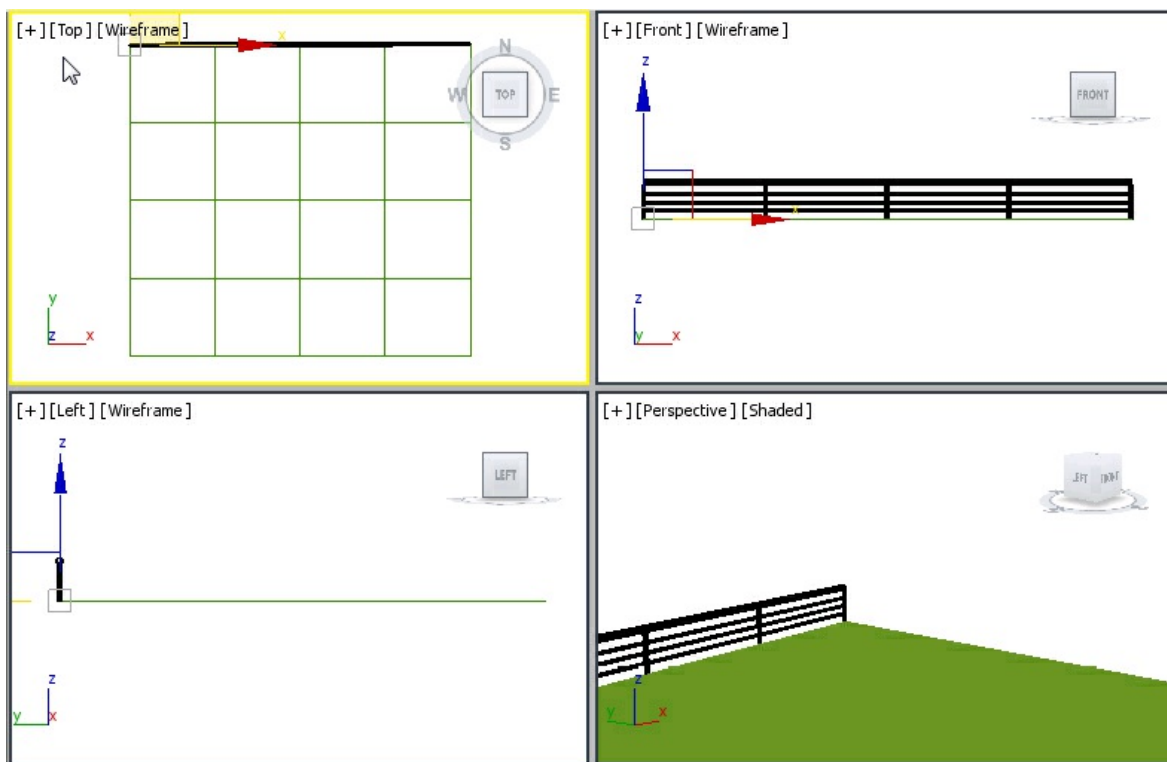

Figure 4-73 *The railing01 geometry in viewports after alignment*
10. Choose the **Select and Move** tool and align *railing01* in viewports, as shown in Figure 4-73.